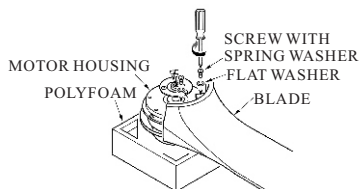

FIG.1
1. Attached each blade assembly to the housing using the blade screws . Tighten them securely.(See fig.1)